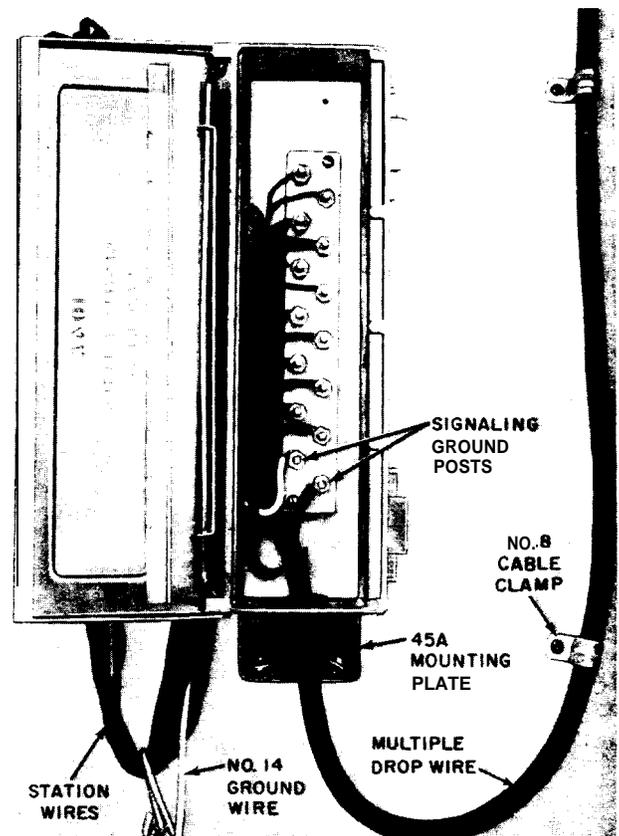

Fig. 1-Wiring of 104A Wire Terminal
2.01 The 104A wire terminal shown in Fig. 1 employs a mounting similar to a lo-pair, N-type distribution terminal, but is equipped with a terminal block having facilities for connecting 6-pair multiple drop wire. Two binding posts on the extreme right are strapped together internally and are used for station signaling grounds.